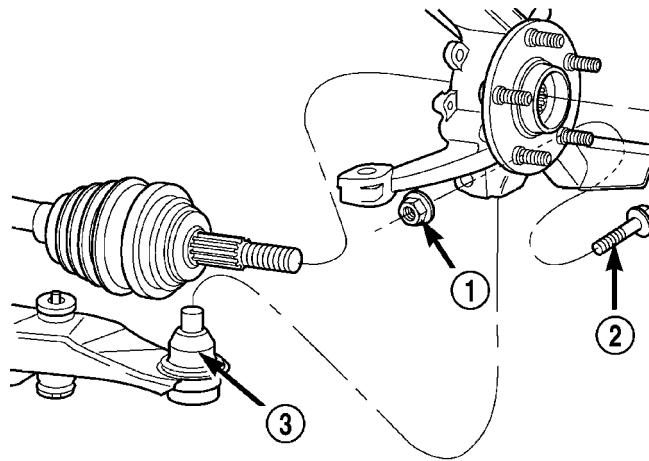

Fig. 20 Driveshaft Installation Into Hub And Steering Knuckle
(6) Slide halfshaft back into front hub. Install steering knuckle onto the ball joint stud (Fig. 20).
(7) Install a NEW steering knuckle to ball joint stud bolt and nut (Fig. 20). Tighten the nut and bolt to 95 N·m (70 ft. lbs.).